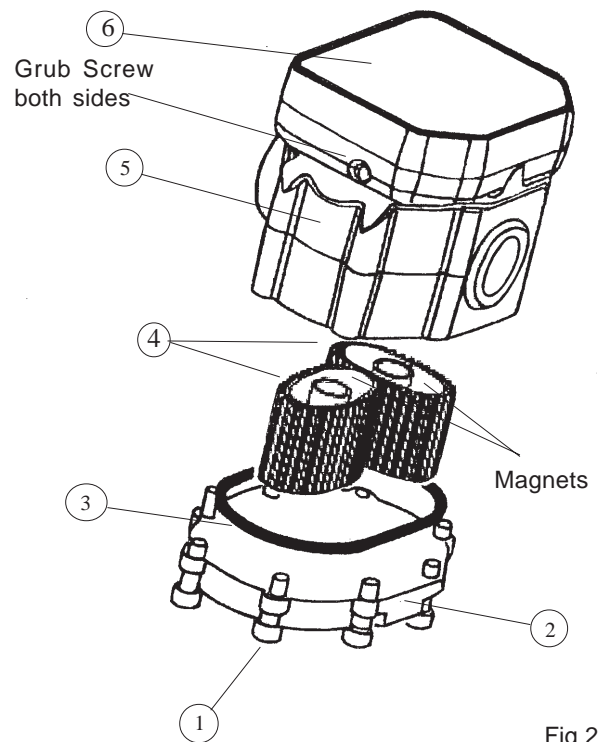

Fig 2
NOTE: Both rotors contain magnets. When the rotors are installed in the meter body correctly the magnets in the rotors must be closest to the sensor module, see Fig 2.
- 1) Using a 2mm Allen key remove the two grub screws located on each side of the sensor module, refer Fig 2.
- 1) Locate the sub PCB into the angled slot in the meter body (Item 5), refer Fig 2, ensure it is located at the end of the slot.
- 3) Lightly grease the oring and fit it into the groove on the underside of the sensor module (item 5).